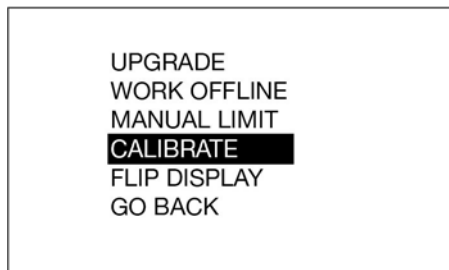
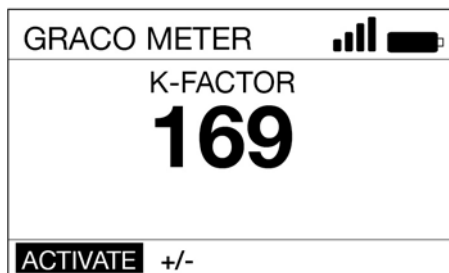

FIG. 20
FIG. 21
4. Select the CALIBRATE option (FIG. 20) to display the calibration K-Factor screen shown in FIG. 21.
5. Select ACTIVATE and press the ENTER button to begin metered dispense valve calibration (FIG. 21).